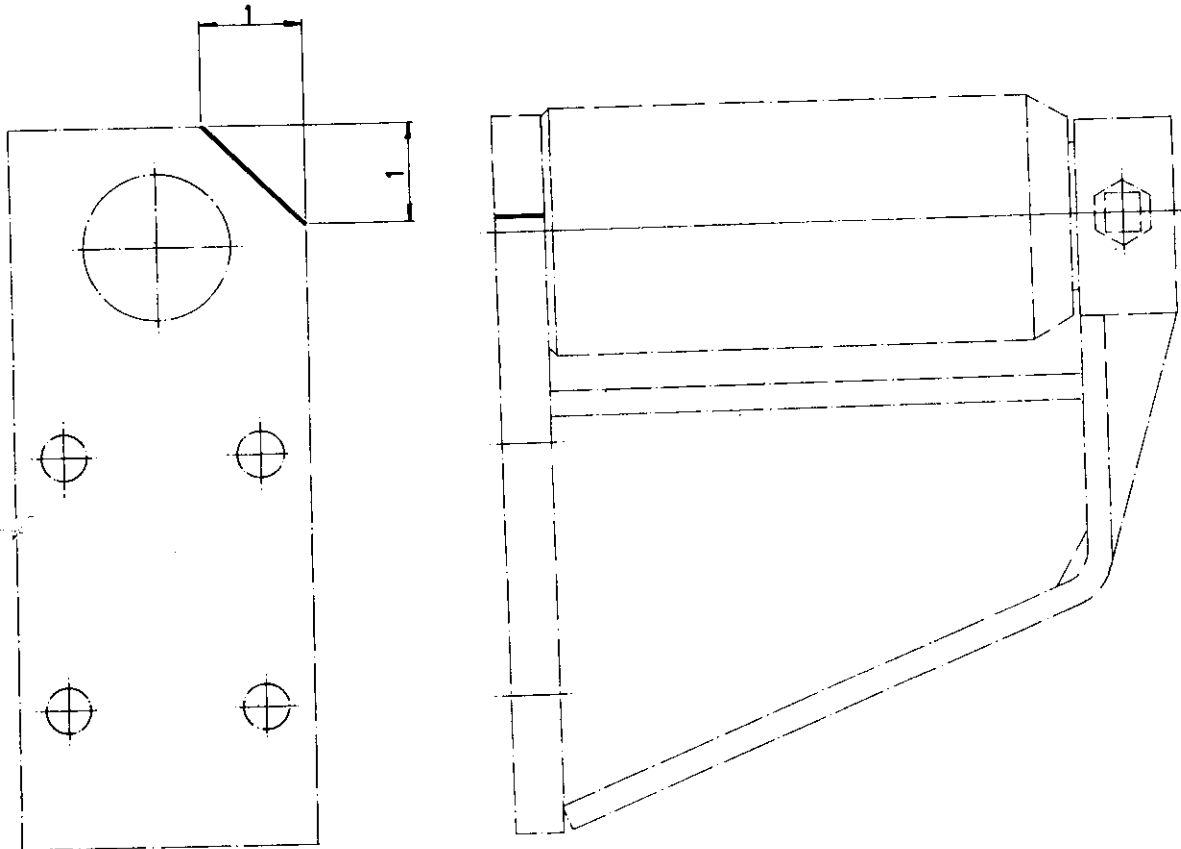

FIG. 1 - VERTICAL FAIRLEADS ASSEMBLY
- b. Modify by removing 1 inch by 45° from each front corner as detailed in fig 1.